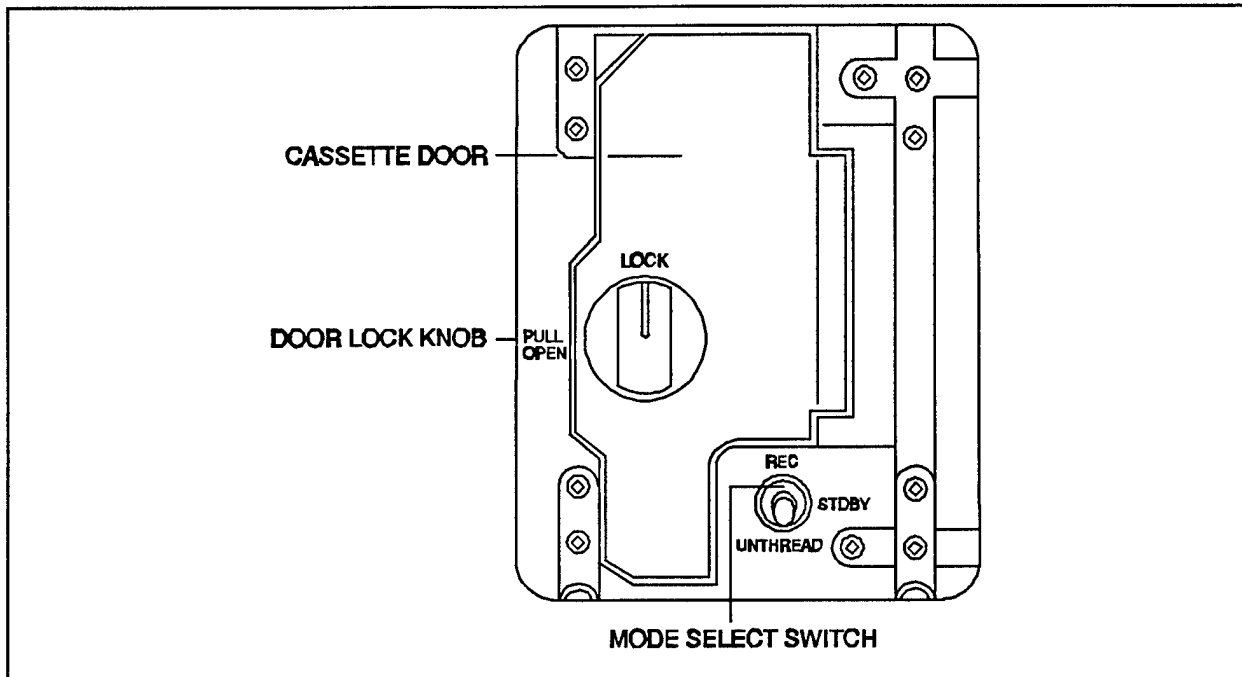

Figure 2-5. Tape Recorder
A TEAC tape recorder is installed in the aft cockpit of each aircraft (Figure 2-5). The recorder is used to record all instrumentation parameters acquired by the DAS. Voice from the intercom and radios is also recorded. Time is recorded as part of the data stream. Power is provided through the Instrument Master Power Switch. The three position switch located on the tape recorder must be left in the standby (center) position to allow the RCP recording functions to have effect.
**The Mode switch (Figure 2-5) should always remain in the STDBY position.**